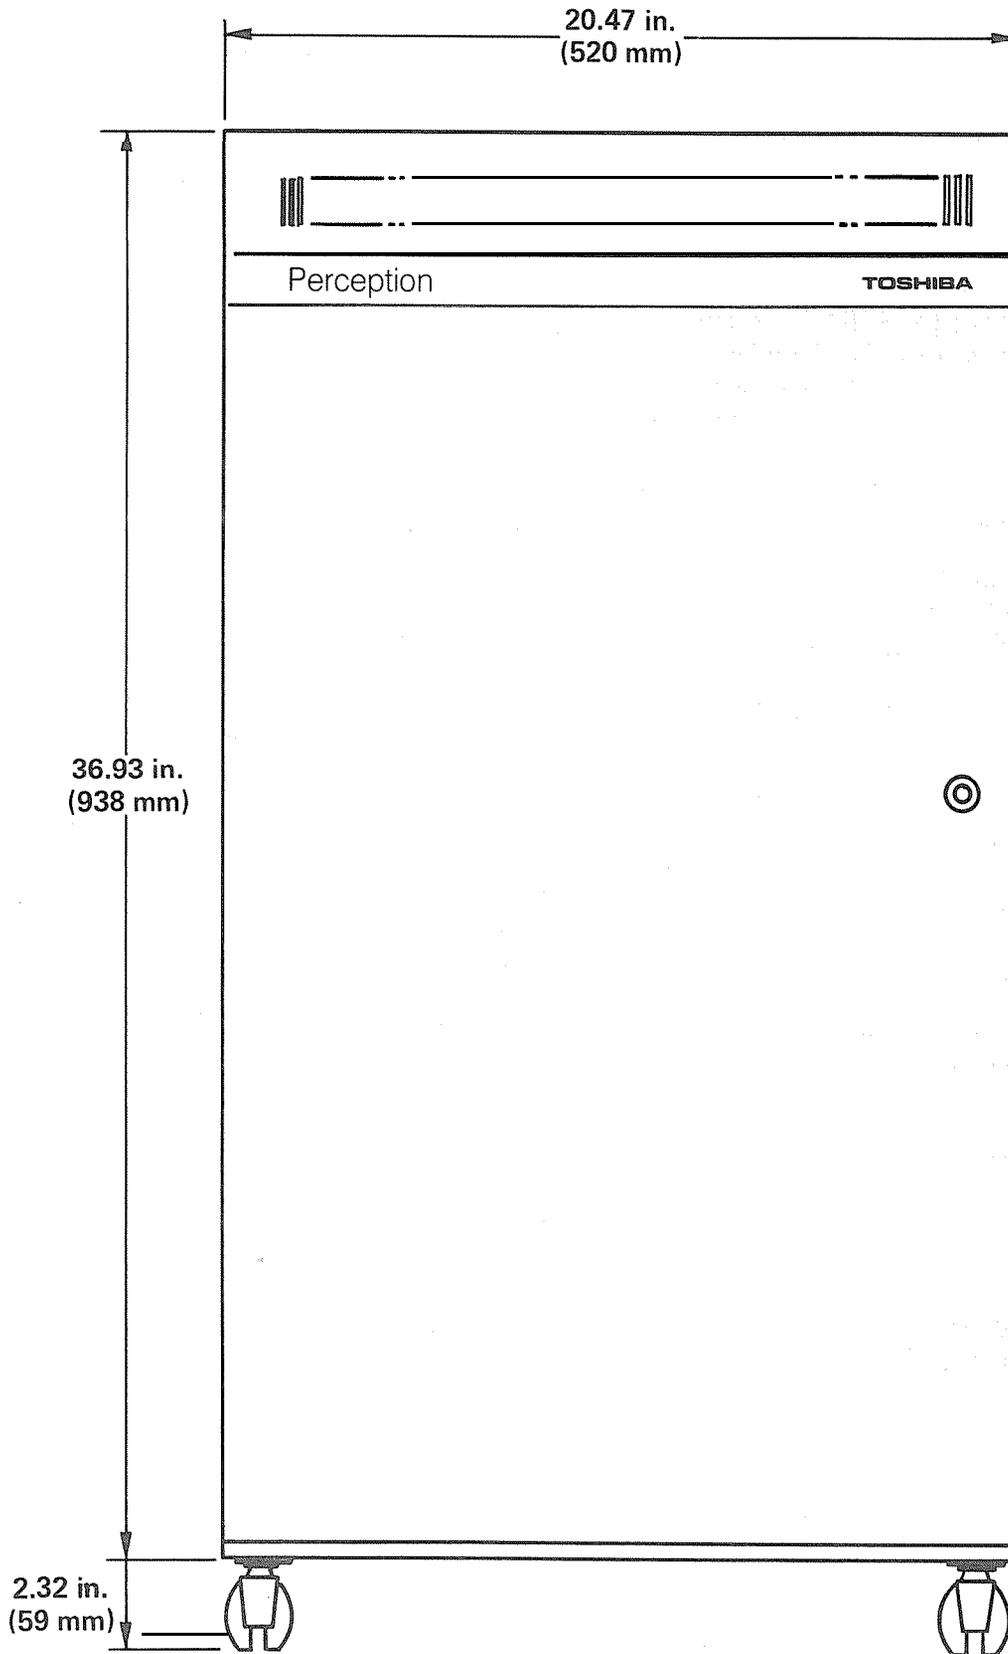

FIGURE 1 - CABINET (Dimensions)
01.11 The physical parameters of the metal PERCEPTION equipment cabinet (Figure 1) are: